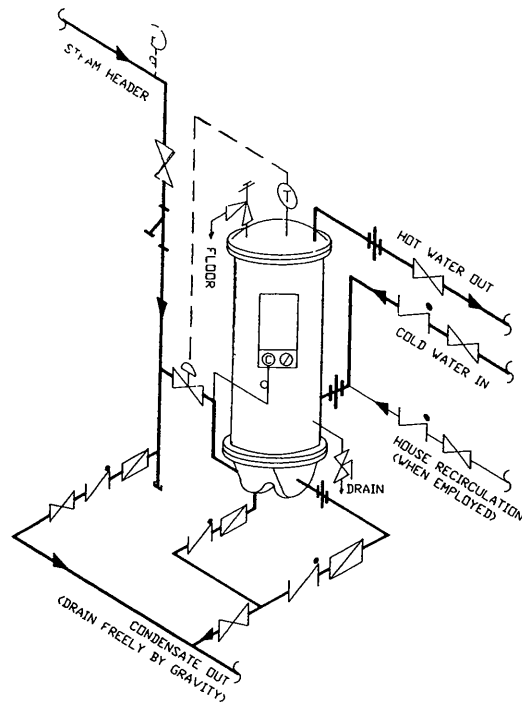

Figure HE-106-3 -- Piping Connections for a Single Steam to Water Heater
All other items -- steam traps, stop valves, check valves, strainers, unions or flanges, and other piping and fittings as shown in Figures HE-106-3 through HE-106-8 are to be furnished by others.
- Single Heater -- Figure HE-106-3
- d Include all of the stop valves, check valves, steam traps, strainers, and other elements as shown in the appropriate illustration (Figures HE-106-3 through HE-106-8) or as separately specified by AERCO
- CM18 No Check Valve in the Condensate drain line Lack of this Check Valve can allow Condensate -- and live Steam if present -- to be drawn back into the Heater from the Condensate line This can result in a high back pressure, water hammer, and, if live Steam is present, over-heating Install a Check Valve in the Condensate drain line as indicated in Figures HE-106-3 through HE-106-6
- CM19 Supply Steam line is not properly trapped Install a trap as indicated in Figures HE-106-3 through HE-106-6